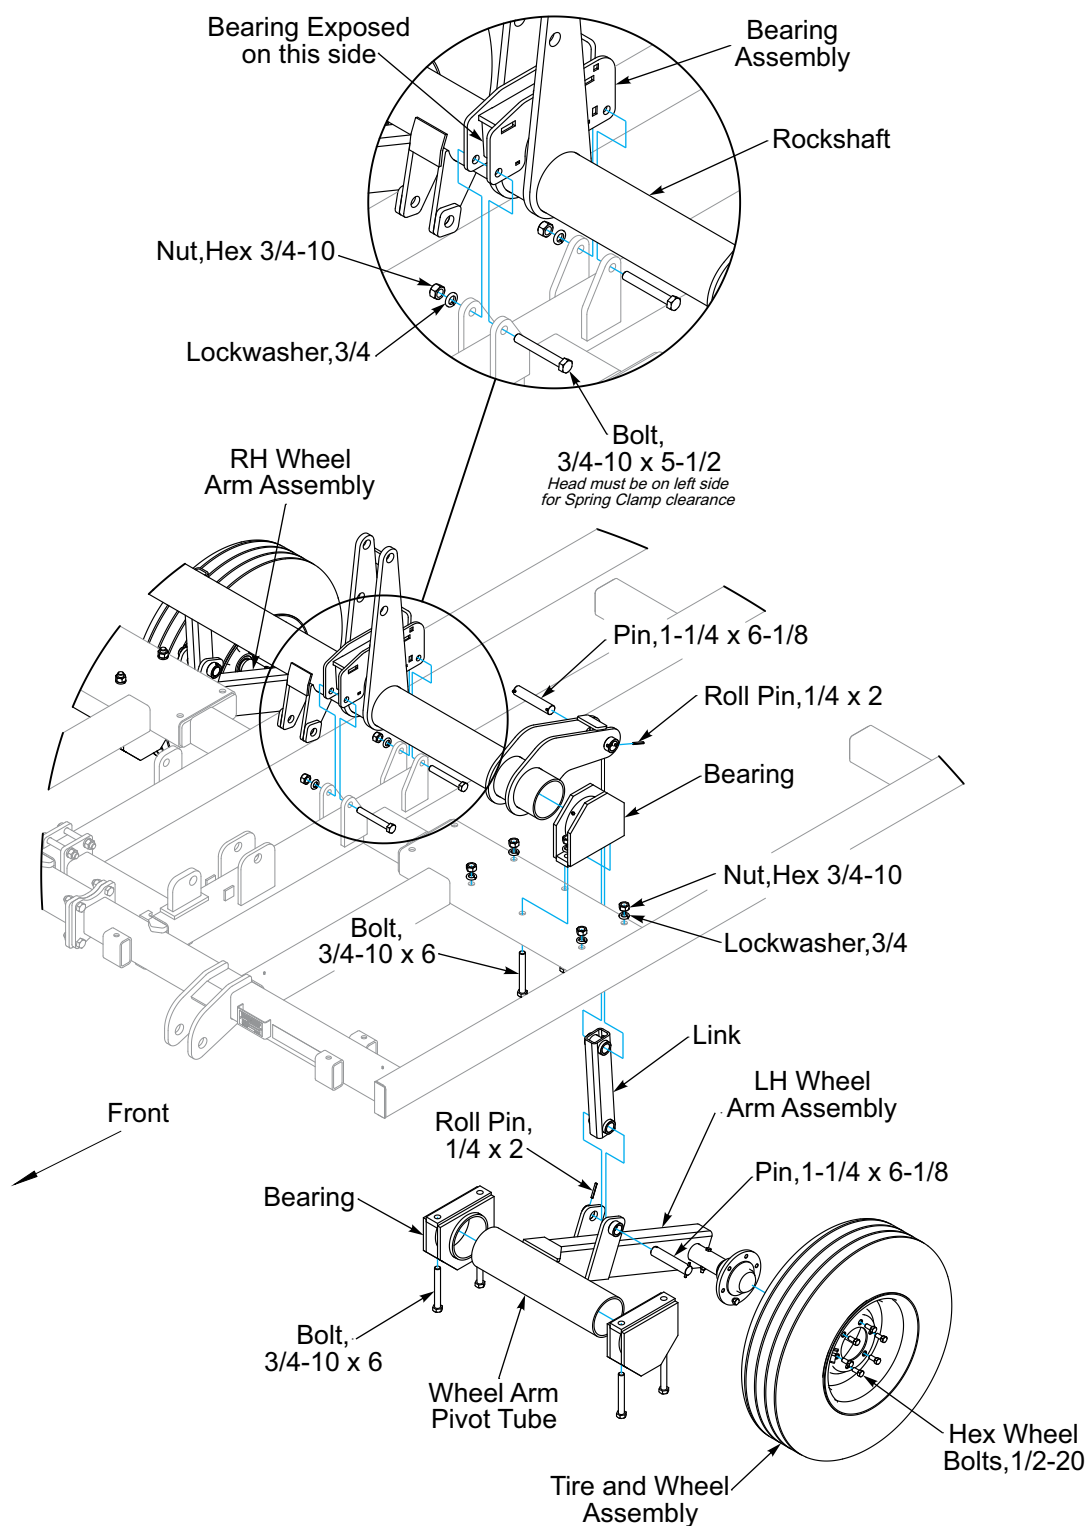

Figure 2-5: Single Wheel Transport Axle Assembly 7 and 9 Shank Models
1. Position Wheel Arm Assemblies or Walking Beam Assemblies under the frame per Machine Model. **See Figures 2-5, 2-6 and 2-7.** Note the position of the Wheel Hubs and the longer end of the Wheel Arm Assemblies or Walking Beam Assemblies Pivot Tube are different per model.
4. With Rockshaft Link Lugs facing rearward, center the Rockshaft on top of the Frame directly above the Wheel Arm Assemblies or Walking Beam Assemblies. Place a Bearing on each end of the Rockshaft and attach it to the 10 x 4 Frame Tube with 3/4-10 x 6 Bolts, Lockwashers and Hex Nuts. **See Figures 2-5 and 2-7.**